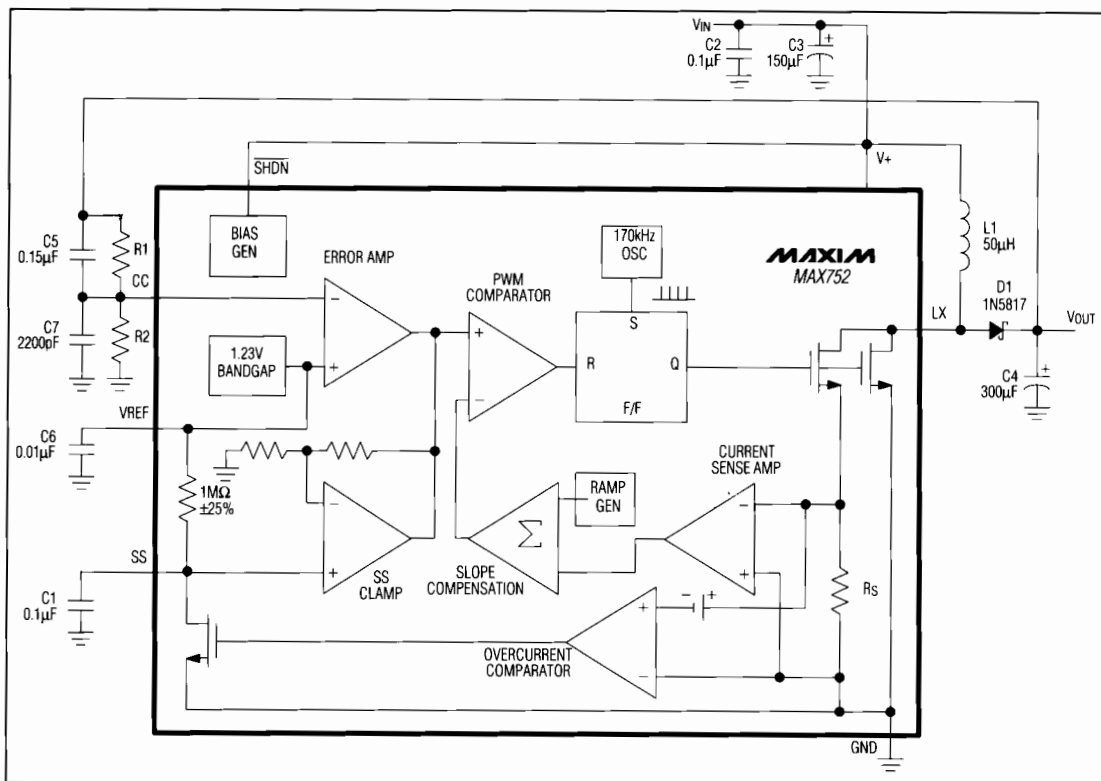

Figure 1b. MAX752 Detailed Block Diagram with External Components, Optimized for 12V Output.
The output voltage for the MAX752 is set by two resistors, R1 and R2 (Figures 1b and 2b), which form a voltage divider between the output and the Compensation Capacitor (CC) pin. The regulator adjusts the output so the voltage at the junction of R1 and R2 is equal to the +1.23V bandgap reference voltage. Since CC is a CMOS input, its input impedance is nearly an open circuit, which will not load the voltage divider. R2 can be any value between 10kΩ to 30kΩ. R1 is given by the formula: